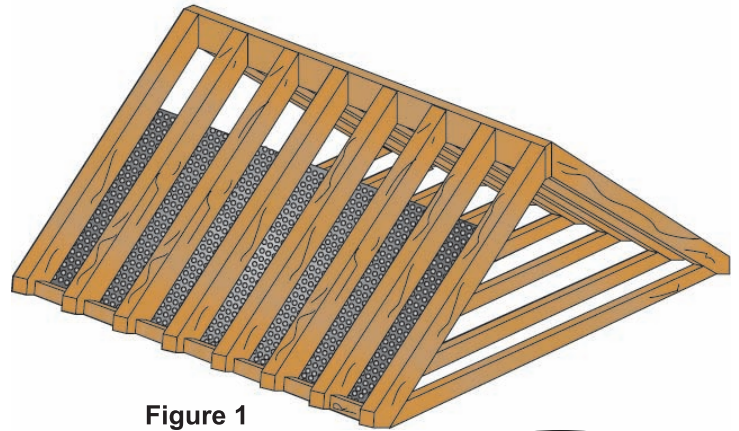

Figure 1
2. The radiant barrier will be installed on the underside of the rafters with the material being run across the rafter facings (Figure 1).